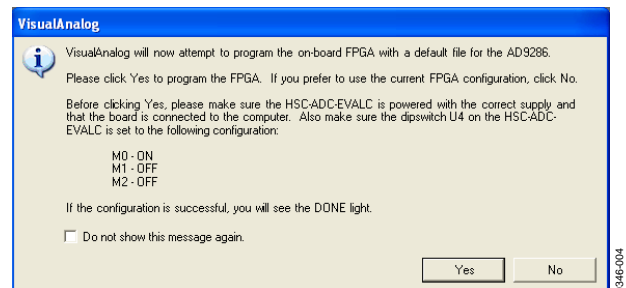

Figure 4. VisualAnalog Default Configuration Message
2. After the template is selected, a message appears asking if the default configuration can be used to program the FPGA (see Figure 4). Click **Yes** to close the window.